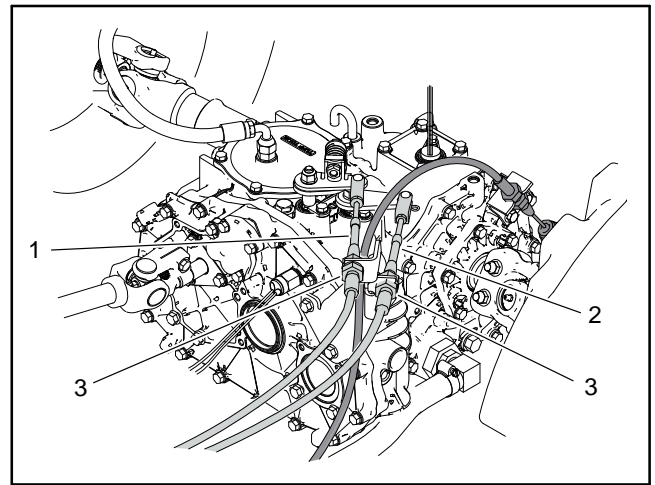

Figure 5
3. Remove rear switch panel (item 4). Disconnect rear switch panel switches from wire harness and remove choke cable from rear switch panel for better access to cable clamp if necessary.
4. Remove three (3) screws and cable clamp (item 10) that secure shift cables to support bracket.
6. Remove shift cable from transaxle shift lever (Fig. 5):
5. Spread jam nuts on bulkhead fitting of cable (Fig. 5). With cable properly routed to transaxle, install cable bulkhead fitting to shift cable mount bracket on transaxle and tighten jam nuts.
8. Check adjustment of shift stop bolts (item 18). Move shift lever forward until lever stops. Hold lever in stopped position and adjust stop bolt so that head just contacts lever. Tighten hex nut on stop bolt.